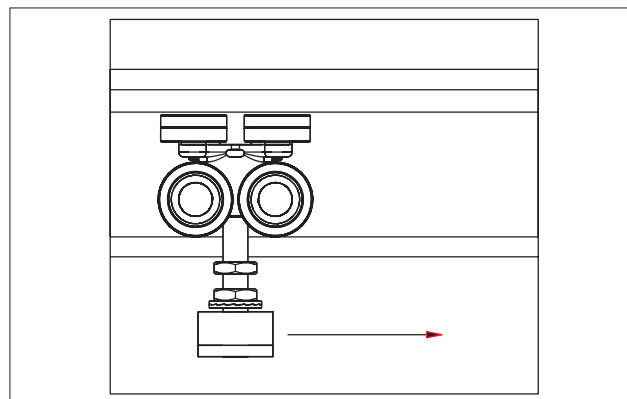

Fig. 27 Insert track roller
1. Insert the track rollers into the track rail. Position the track rollers in the track rail according to the system drawing (Fig. 27).